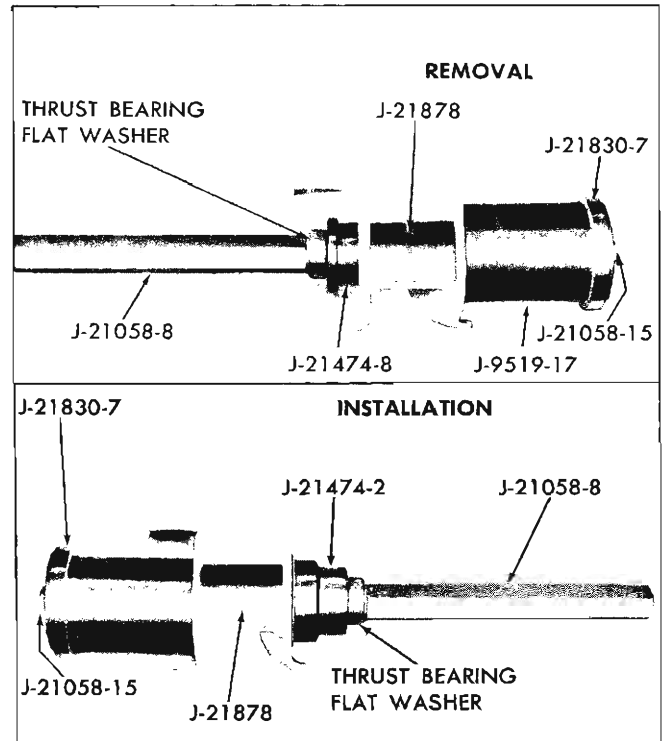

Fig. 35—Lower Control Arm Bushing—Chevrolet
2. Install Tools J-21058-8, J-21058-15, J-21830-7, J-9519-17, J-21474-8, special thrust washer and a flat washer as shown in Figure 35. Use J-21878 as shown to prevent collapse of the control arm.
1. With Spacer J-21878 in place to prevent collapse of the control arm, install Tools J-21058-8, J-21058-15, J-21830-7, J-9519-17, J-21474-2 special thrust washer and flat washer as shown in Figure 35.